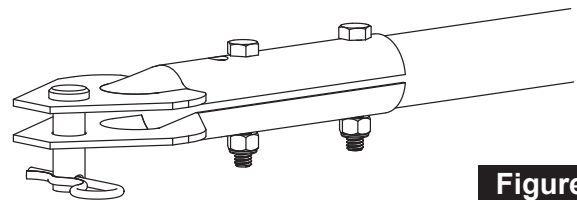

Figure 8
11. Install Hitch Plates to end of Tow Bar using 1/4-20 x 1-3/4" Bolts and 1/4" Nylon Insert Locknuts, Figure 8.